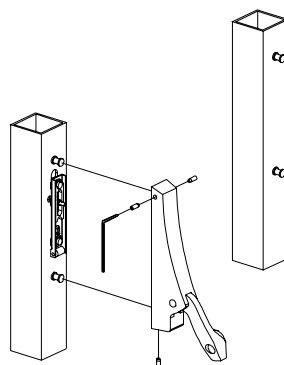

Figure 6-2
- 6.2. Install lock stile housing over mounting studs and secure with set screws (Figure 6-2). Test operation.